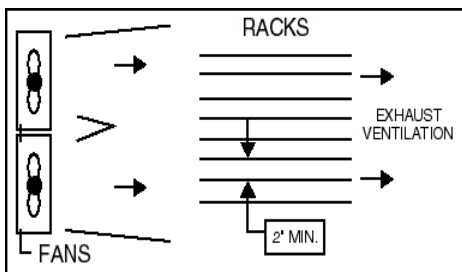

FIGURE 2
**Air-drying** — Air-drying in racks requires high volume air movement (4000-6000 cfm) across the individual rack faces. Allow a minimum of 2" (5cm) between shelves for air flow (See Fig. 2). If proper ventilation is used, the inks should air-dry for a minimum of 1 hour between colors, 2 hours prior to clear coating, and a minimum of 4 hours after clear coating.